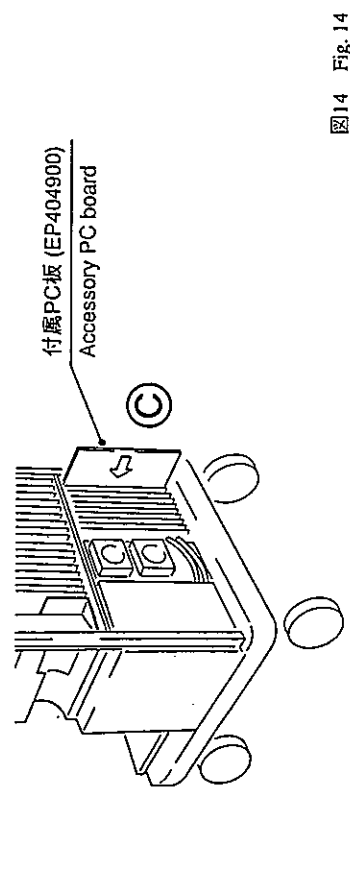

図14 Fig. 14
- (3) 付属PC板 (EP404900) を、一番右のスロットに軽く突き当たるまで差し込む。(図14 ㊺)
- (3) Continue to insert accessory PC board (EP404900) until it has lightly hit against slot at the rightmost side. (㊺ in Fig. 14)